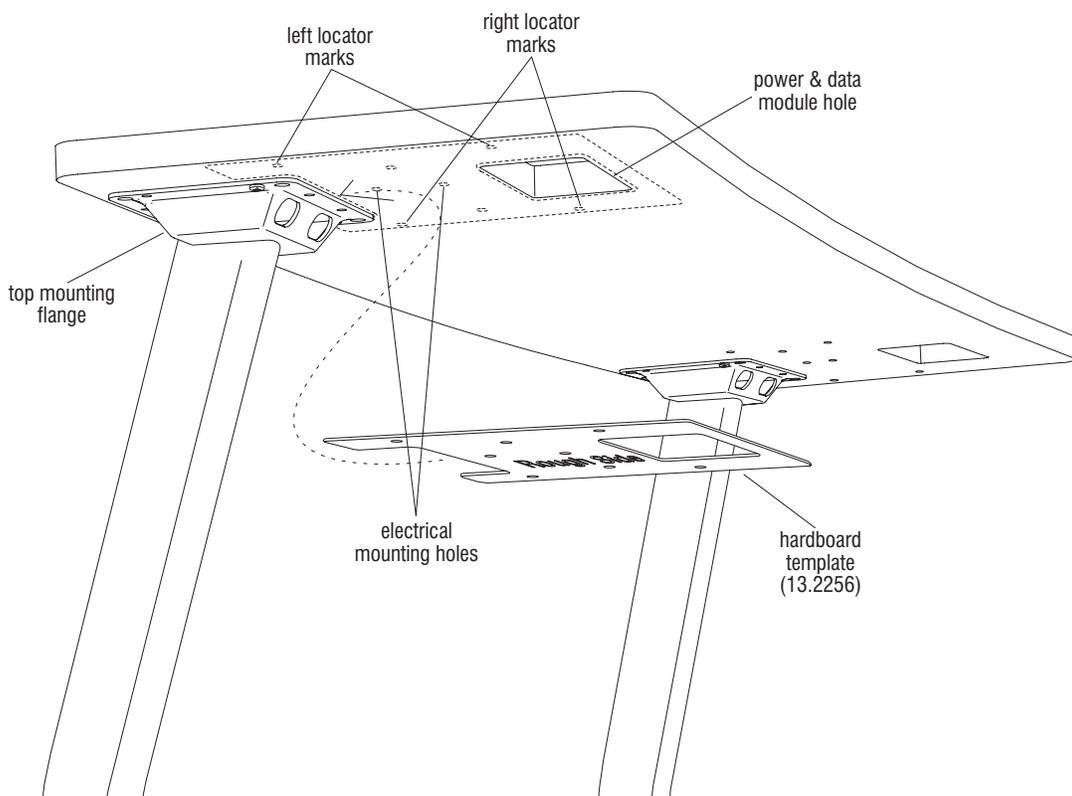

Figure 6
- For University worksurfaces with PowerUp, carefully position the worksurface(s) onto the University Select bases, at the proper location according to the space-planning layout, and by using the “hardboard template” (Step 18, Figure 6). Fasten each top mounting flange
- Use the hardboard template provided to check each power & data module hole location. To do this, straddle the template against the top mounting flange at the underside of the worksurface as illustrated. The template must be positioned with the smooth side facing up against the underside of the worksurface. The power & data module hole in the worksurface must fall within the cut-out in the hardboard template (Figure 6).
- After worksurfaces are solidly attached to the properly positioned bases, place the template under the worksurface again, with the smooth side up, straddling the worksurface mounting flange. Draw with a pencil through the template holes, the left and right locator marks (looking up from underneath at the front of the worksurface) and the mounting holes for the electrical components. This is to be done along the run of all bases and worksurfaces (Figure 6).